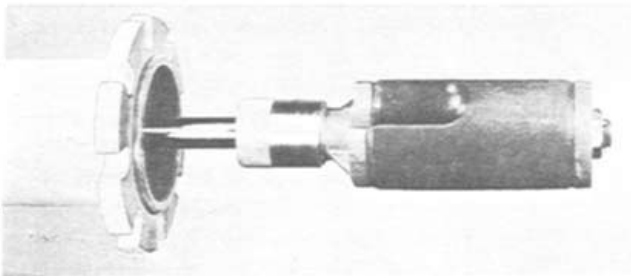

FIGURE 15
2. Attach stopper (by-pass, special by-pass or solid) to inserting bar of stopping machine. **Figure 15.**